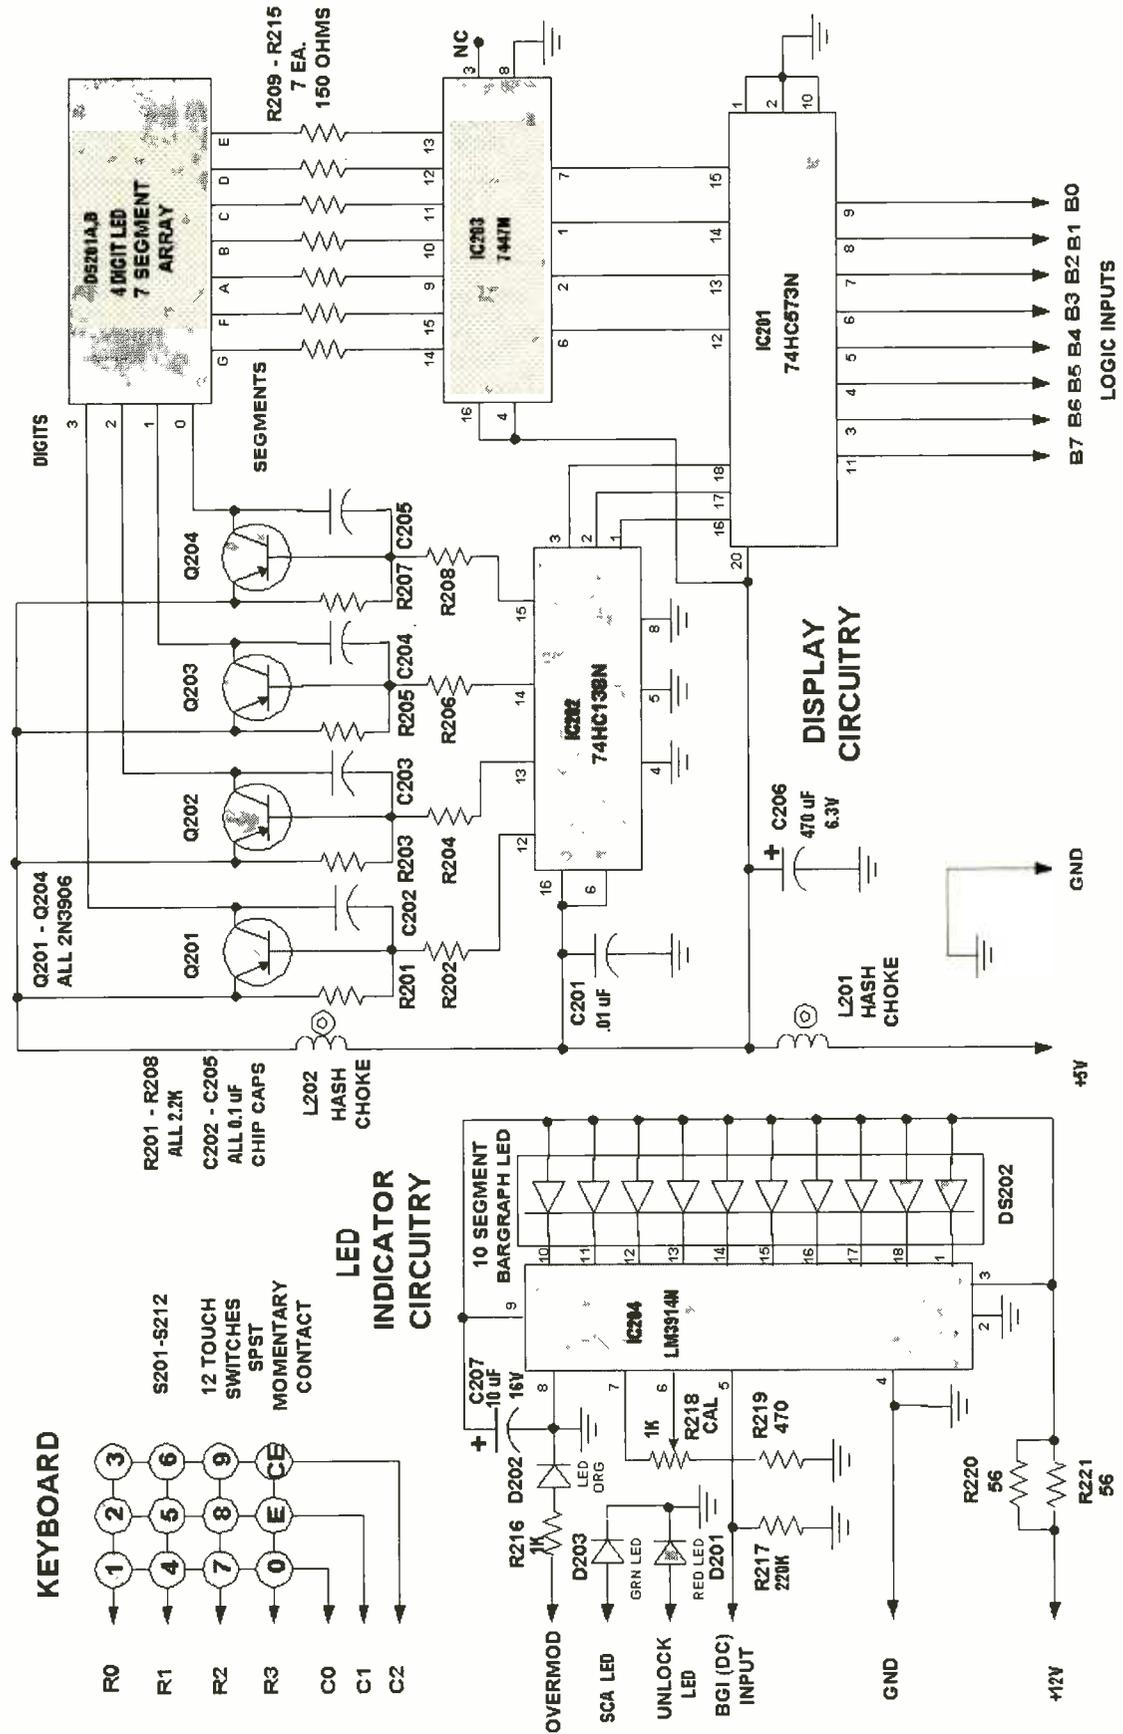

Fig. 3. This is the schematic for the display-board circuitry
**Display-Board Design.** Let's discuss the display-board circuitry (refer to Fig. 3 for schematics). This board contains a 4 × 3 matrix of touch switches arranged in 4 rows and 3 columns, a 4-digit multiplexed display, and the bar-graph LED and its associated driver, an LM3914 (IC204). In addition, three other LEDs that serve as overmodulation (D202), PLL unlock (D201), and SCA subcarrier ON (D203) are also on this board. The keyboard is polled periodically by the microcontroller for switch closure by applying a logic level to a row and looking to see if this level appears on one of the three columns. Each switch has a unique row and column location; and the switches are scanned sequentially, 1 through 10 (10 is represented by zero). There are two other keys, E (enter) and CE (clear entry). The desired frequency is entered, most significant digit first. Since we have four digits, the most significant digit is zero for frequencies below 100.0 MHz. This zero does not have to be entered, but it is recommended. This eliminates possible "glitches" or entry errors and fully clears the keyboard memory. When the first entry is made, two zeros appear on the display to the left of the entered digit. The leftmost is blanked on leading zeros. For example, 99.5 MHz will be displayed as 995 instead of 0995.